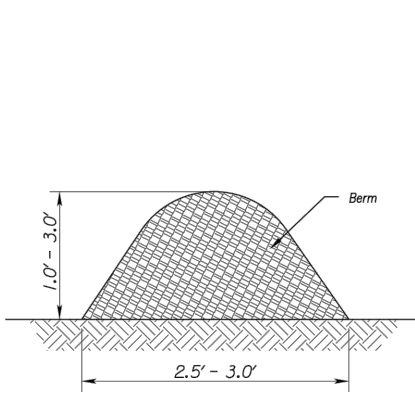

Figure 1
- Parallel to the base of the slope, or around the perimeter of other affected areas, construct a 1 to 3 foot high by 2.5 to 3 foot wide berm (see Figure 1). For maximum water treatment ability, or for steep slopes, construct a 1.5 to 3 foot high (steep) berm that is a minimum of 4 feet wide at the base (see Figure 3). In extreme conditions, or where specified by the engineer, a second berm shall be constructed at the top of the slope. Engineer will specify berm requirements.